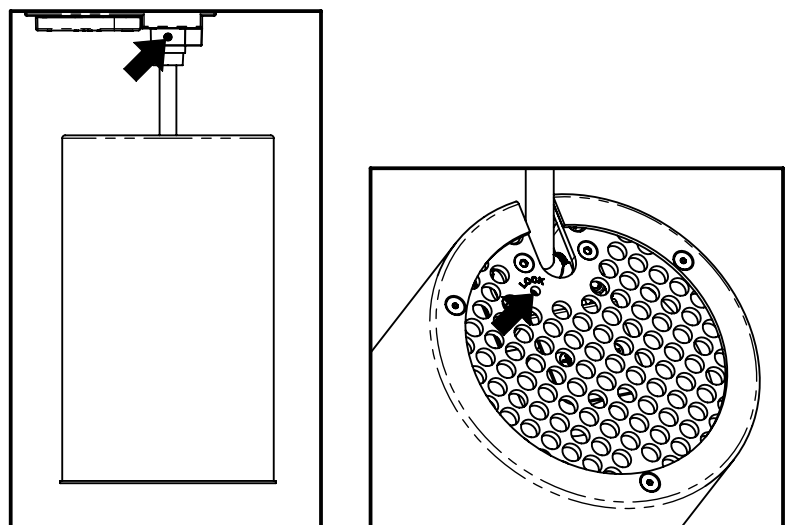

FIG 14. HORIZONTAL FOCUS LOCK (L). VERTICAL FOCUS LOCK (R)
- *FOR WRENCH LOCKING*: AFTER AIMING, INSERT THE ALLEN KEY INTO THE HORIZONTAL AND VERTICAL FOCUS LOCK (FIG. 14), AND TURN IT CLOCKWISE TO TIGHTEN.